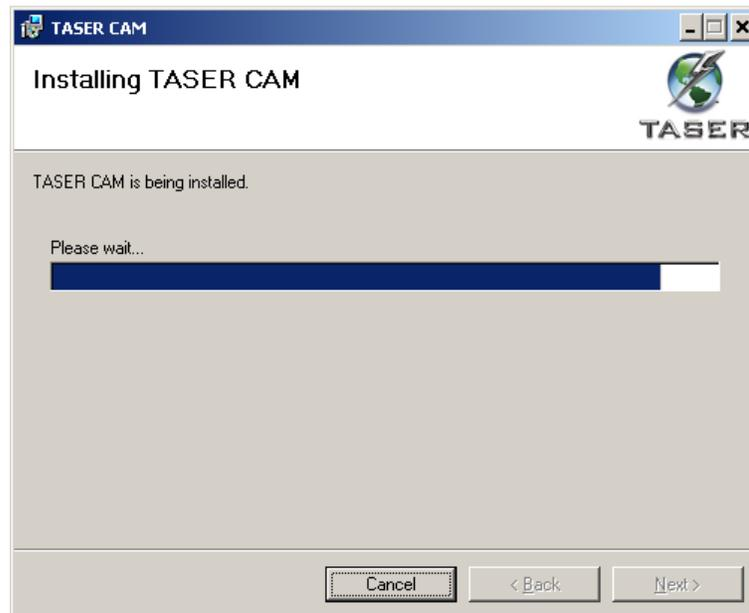

Figure 7
11. The installation status displays (Figure 7).